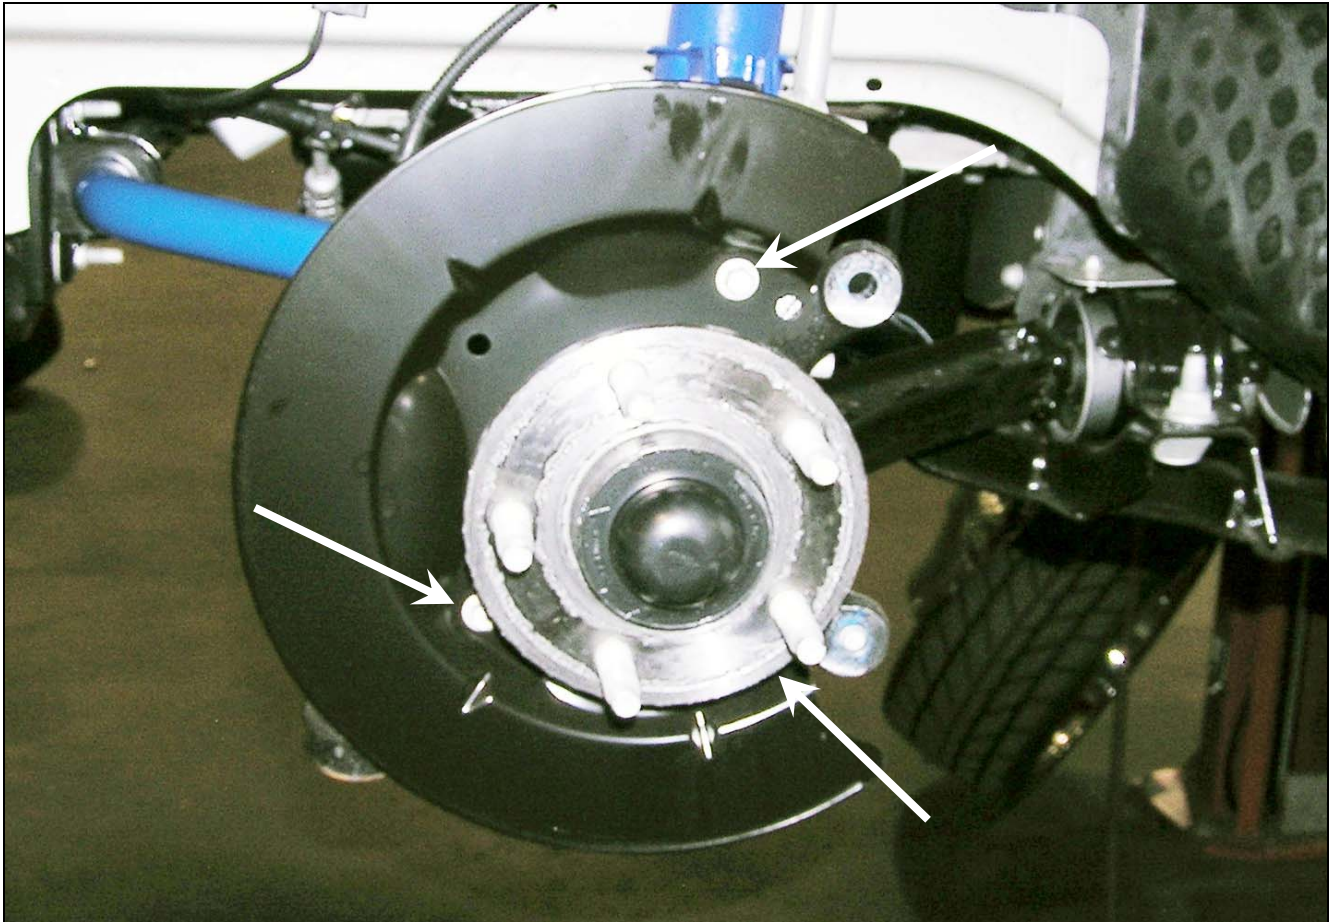

Figure 8
4. Remove the three retaining bolts holding the dust shield in place, using a 10mm wrench or socket. Set aside bolts for later use. Refer to Figure 8.